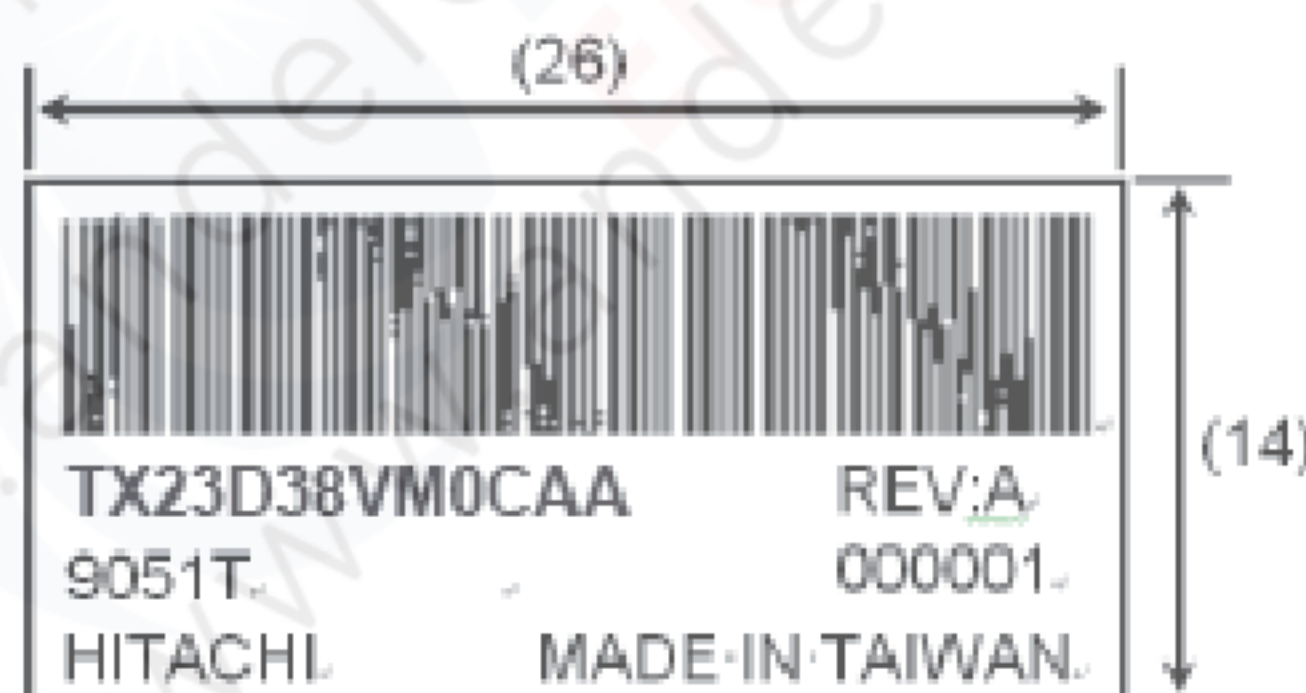

Fig 13.1
- 1) The lot mark is showing in Fig.13.1. First 4 digits are used to represent production lot, T represented made in Taiwan, and the last 6 digits are the serial number.
4) The location of the lot mark is on the back of the display shown in Fig. 13.1.